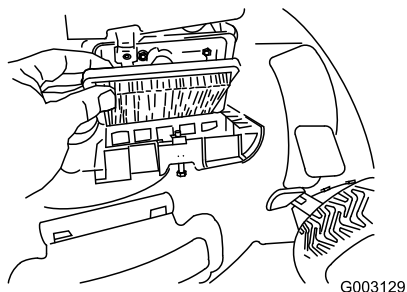

Figure 41
4. Install the cover (Figure 41).